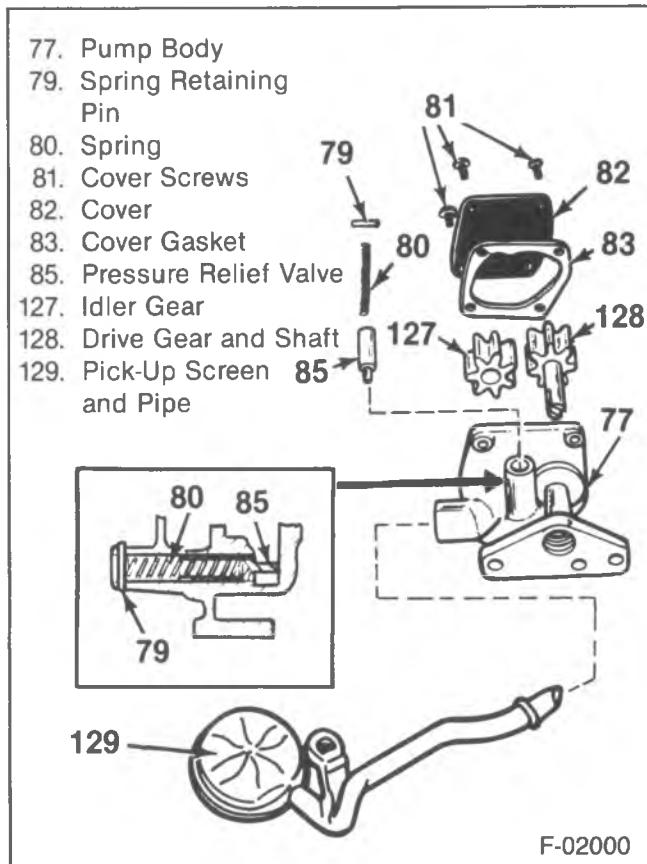

Figure 32—Oil Pump Components
Disassemble (Figure 32)
**Assemble (Figures 32 and 33)**